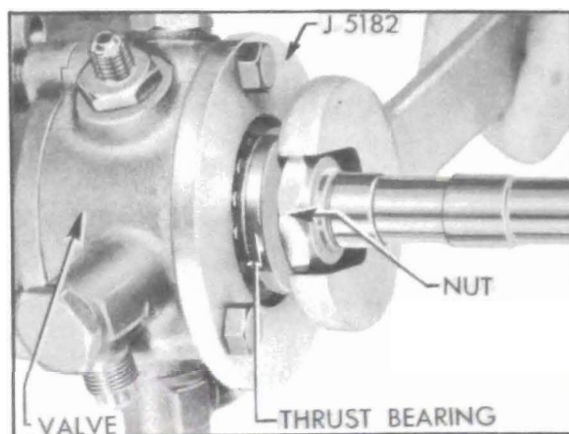

Figure 7-14—Tightening Worm Bearing Nut
9. Support steering gear in a vertical position to make sure that thrust bearing balls are seated in races, then align the large (“RT”) union with left edge of cylinder flange on gear housing. Install Valve Cover Adapter J 5182 (fig. 7-14) with valve cover bolts and tighten securely.
11. Install steering wheel and turn counterclockwise until centering springs are fully compressed, due to pressure of ball nut against the end cover. Hold wheel and tighten worm bearing nut just enough to seat the thrust bearings firmly against valve spool. See figure 7-14.